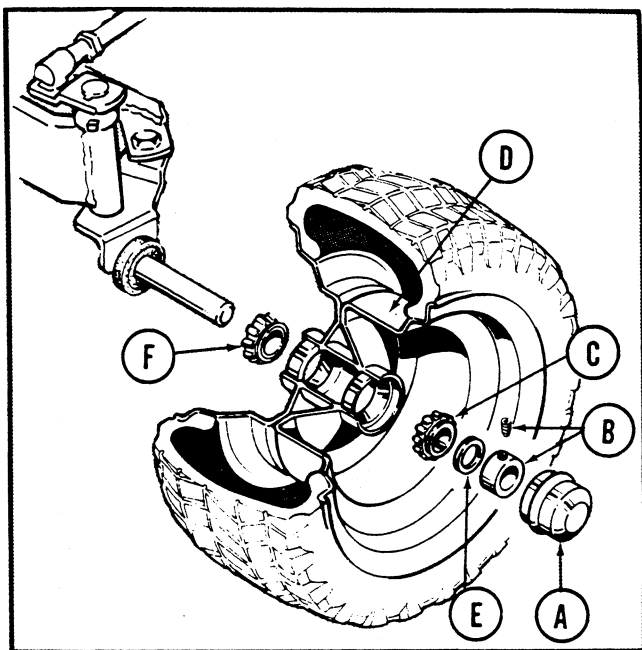

Figure 31. Left front spindle and axle assembly.
2. See figure 31. Remove the grease cup (A) by prying off with a screw driver.
3. Use an Allen wrench to loosen the set collar (B).
4. Remove the set collar (B), washer (E), outer bearing (C), wheel (D), and inner bearing (F). It is best to keep the two bearings separate so you can put them back in their original place. Wash the bearing shaft, bearings, and wheel housing with a suitable solvent and wipe dry. Inspect the seal of the inner wheel. Replace it if it is damaged. **NOTE: IT IS EXTREMELY IMPORTANT THAT THE BEARINGS AND GREASE THAT IS PACKED IN THEM BE KEPT CLEAN.**
6. See figure 31. Replace the inner bearing and slide the wheel on the axle.